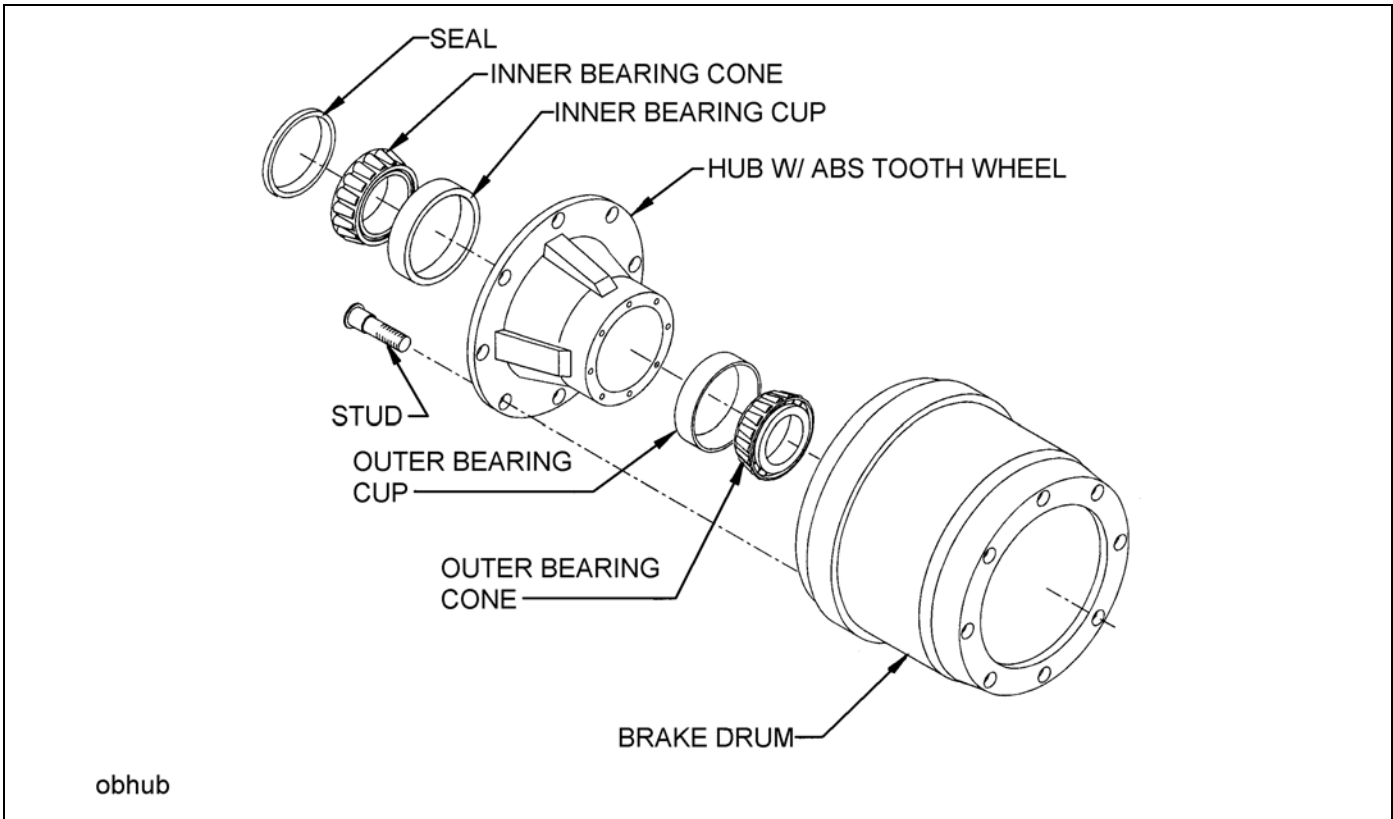

Figure 4-12: Outboard Mount Hub and Drum
4. Replace the hub and drum as follows (**See Figure 4-12**):
- a. Remove the brake drum (**See Figure 4-12**.) It may be necessary to release the slack adjuster.
- i. Place the drum over the hub and brake shoes being careful not to damage the threads on the studs (See Figure 4-12.) Make sure the drum seats flat against the hub flange and mates properly with the hub pilot. There should be no interference between the brake drum pilot chamfer and the corner radius on the hub. If interference exists, the hub will not be able to function properly.